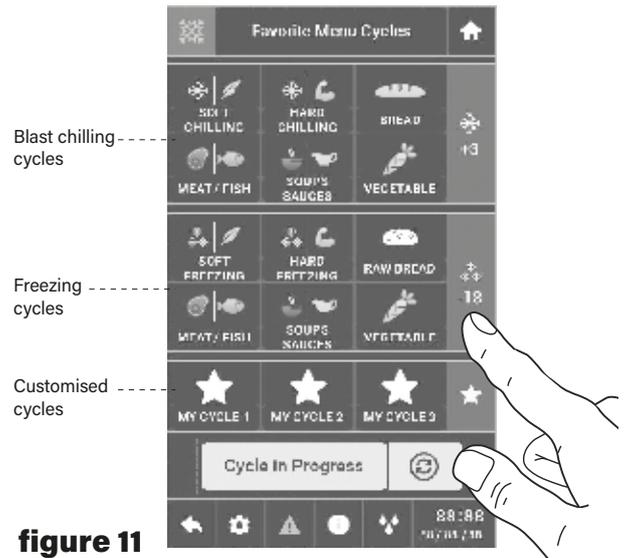

figure 11
1) FULL MODE version 72 cycles (figure 11)
The home screen (figure 11) displays the cycles that are most used, the customer will be able to decide the cycles to be displayed on this page according to their needs.